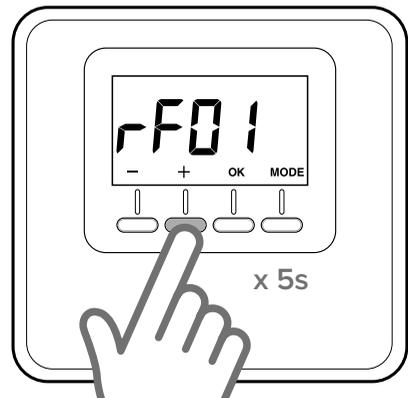

Fig. 6
- Hold “+” down for 5 seconds again to enter the technical parameters menu; parameter “rF01” will display (Fig. 6).